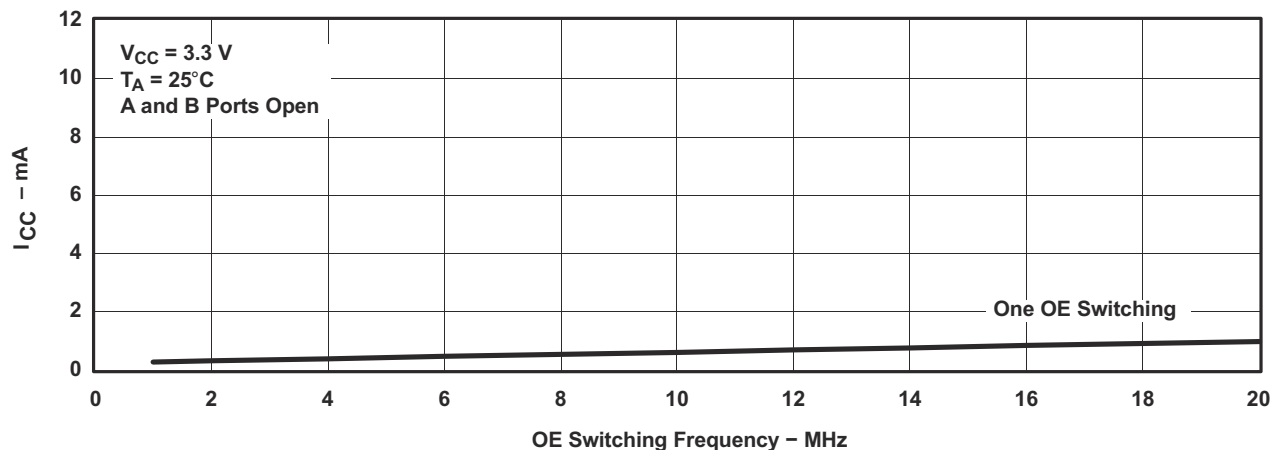

FIG 9-2. Typical I_{CC} vs OE Switching Frequency
(1) V_{IN} and I_{IN} refer to control inputs. V_I , V_O , I_I , and I_O refer to data pins.
(2) All typical values are at $V_{CC} = 3.3\text{ V}$ (unless otherwise noted), $T_A = 25^\circ\text{C}$.
(3) For I/O ports, the parameter I_{OZ} includes the input leakage current.
(4) This is the increase in supply current for each input that is at the specified TTL voltage level, rather than V_{CC} or GND.
(5) This parameter specifies the dynamic power-supply current associated with the operating frequency of a single control input (see Figure 9-2).
(6) Measured by the voltage drop between the A and B terminals at the indicated current through the switch. ON-state resistance is determined by the lower of the voltages of the two (A or B) terminals.